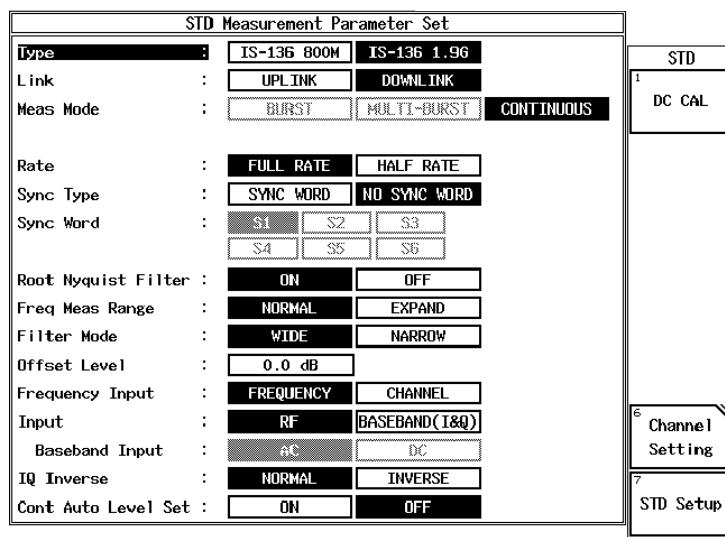

Figure 6-4 Setup of Measurement Parameter for Modulation Accuracy (IS-136)
3. On the R3267 Series, set the measurement parameter as shown in Figure 6-4.